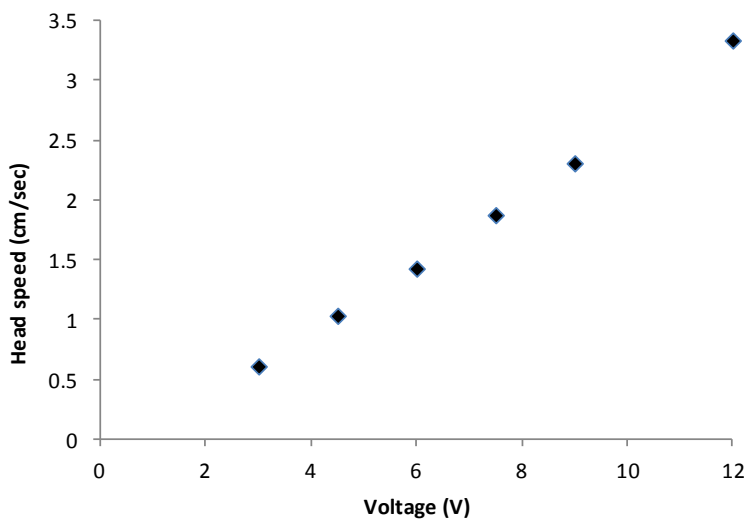

Figure 2: Voltage of LFRD varied from 3 - 12v. Distance travelled = 30 cm
- a. See Appendix A, Figure 2 for voltage dependence on head speed.